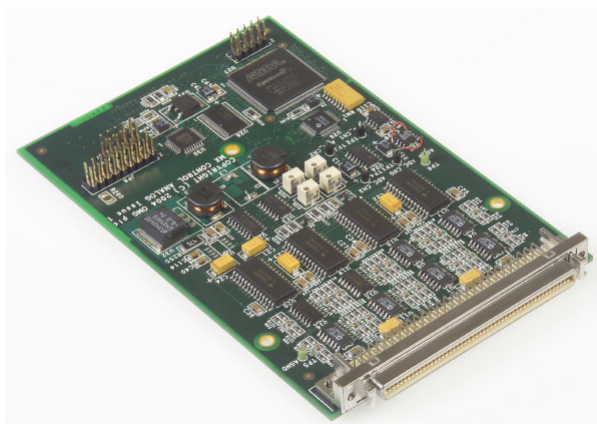

Figure A-3: Analog ADC card with female mating sockets
2. Locate the female mating sockets on the new MX option card. For example, the analog ADC option card shown in Figure A-3 has 60-pin and 80-pin female mating sockets underneath the card.